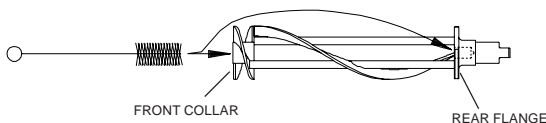

Figure 7-9 Brush beater shaft
d. The beater shaft inside the front collar and the hole on the rear flange (figure 7-9).